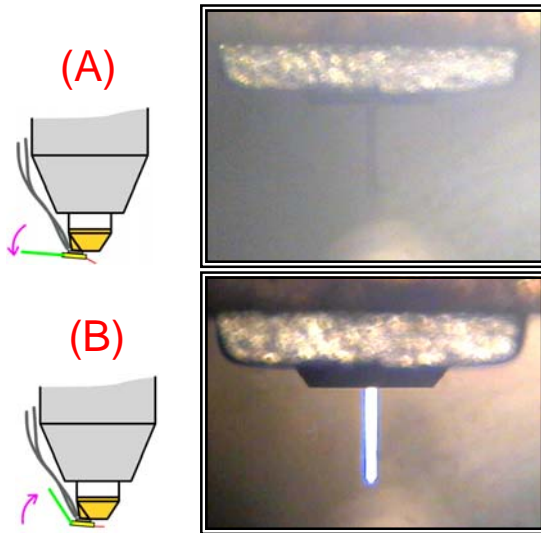
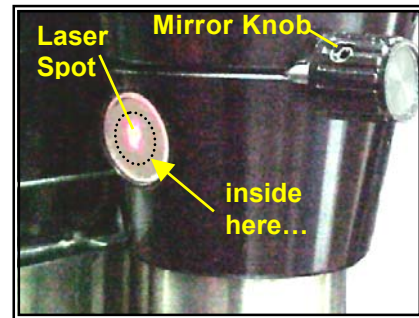

Figure 3-4 Cantilever appearance when the tilt lever is too low (A) and too high (B).
Figure 3-8 Alignment window.
The tilt of the cantilever can be varied over a range of about $\pm 4^\circ$ with the small tilt lever located at the back of the probe holder. The purpose of the tilt adjustment is to compensate for manufacturing variations in the tilt of the cantilever. Later, when the laser optics in the scanner are aligned (Section 3.5) the exact setting of the tilt lever will be made. Here, for the purposes of viewing the cantilever, it is only necessary to adjust the tilt lever to approximately the right position. If the tilt lever is set too low, as shown in Figure 3-4 (A), the cantilever will tilt steeply downward and reflect very little of the illumination light back toward the camera. The cantilever will appear to fade into the background. On the other hand, if the tilt lever is set too high as in (B), the cantilever will be close to horizontal and it will appear mirror-like in the camera window. The correct adjustment falls between these two extremes, as shown above in Figure 3-3. Adjust the tilt of your cantilever accordingly.
When the cantilever is positioned properly the laser dot will fall near the middle of the alignment window. Exact centering is unnecessary: anywhere within the circle indicated in Figure 3-8 will be sufficient. If adjustments are necessary to bring the laser spot within the acceptance circle it is usually sufficient to just move the laser spot laterally. This is accomplished by adjusting the tilt of the cantilever. Refer to Figure 3-4. Move the tilt lever at the back of the probe holder up or down slightly as necessary to reposition the laser spot in the alignment window.